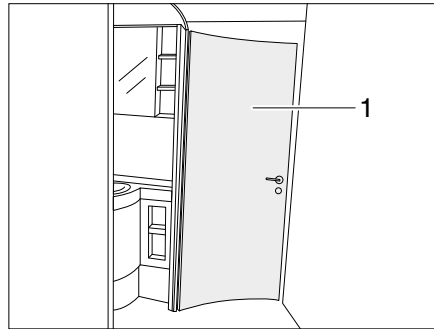

Fig. 234 Bath area
The door of the toilet area (Fig. 234,1) can be locked into a bath area in 1-3 different opening widths depending on the equipment. Depending on the selected opening width, different room segments can be combined with each other.
- ▷ The door of the toilet area (Fig. 234,1) may not be used as a partition during the journey.